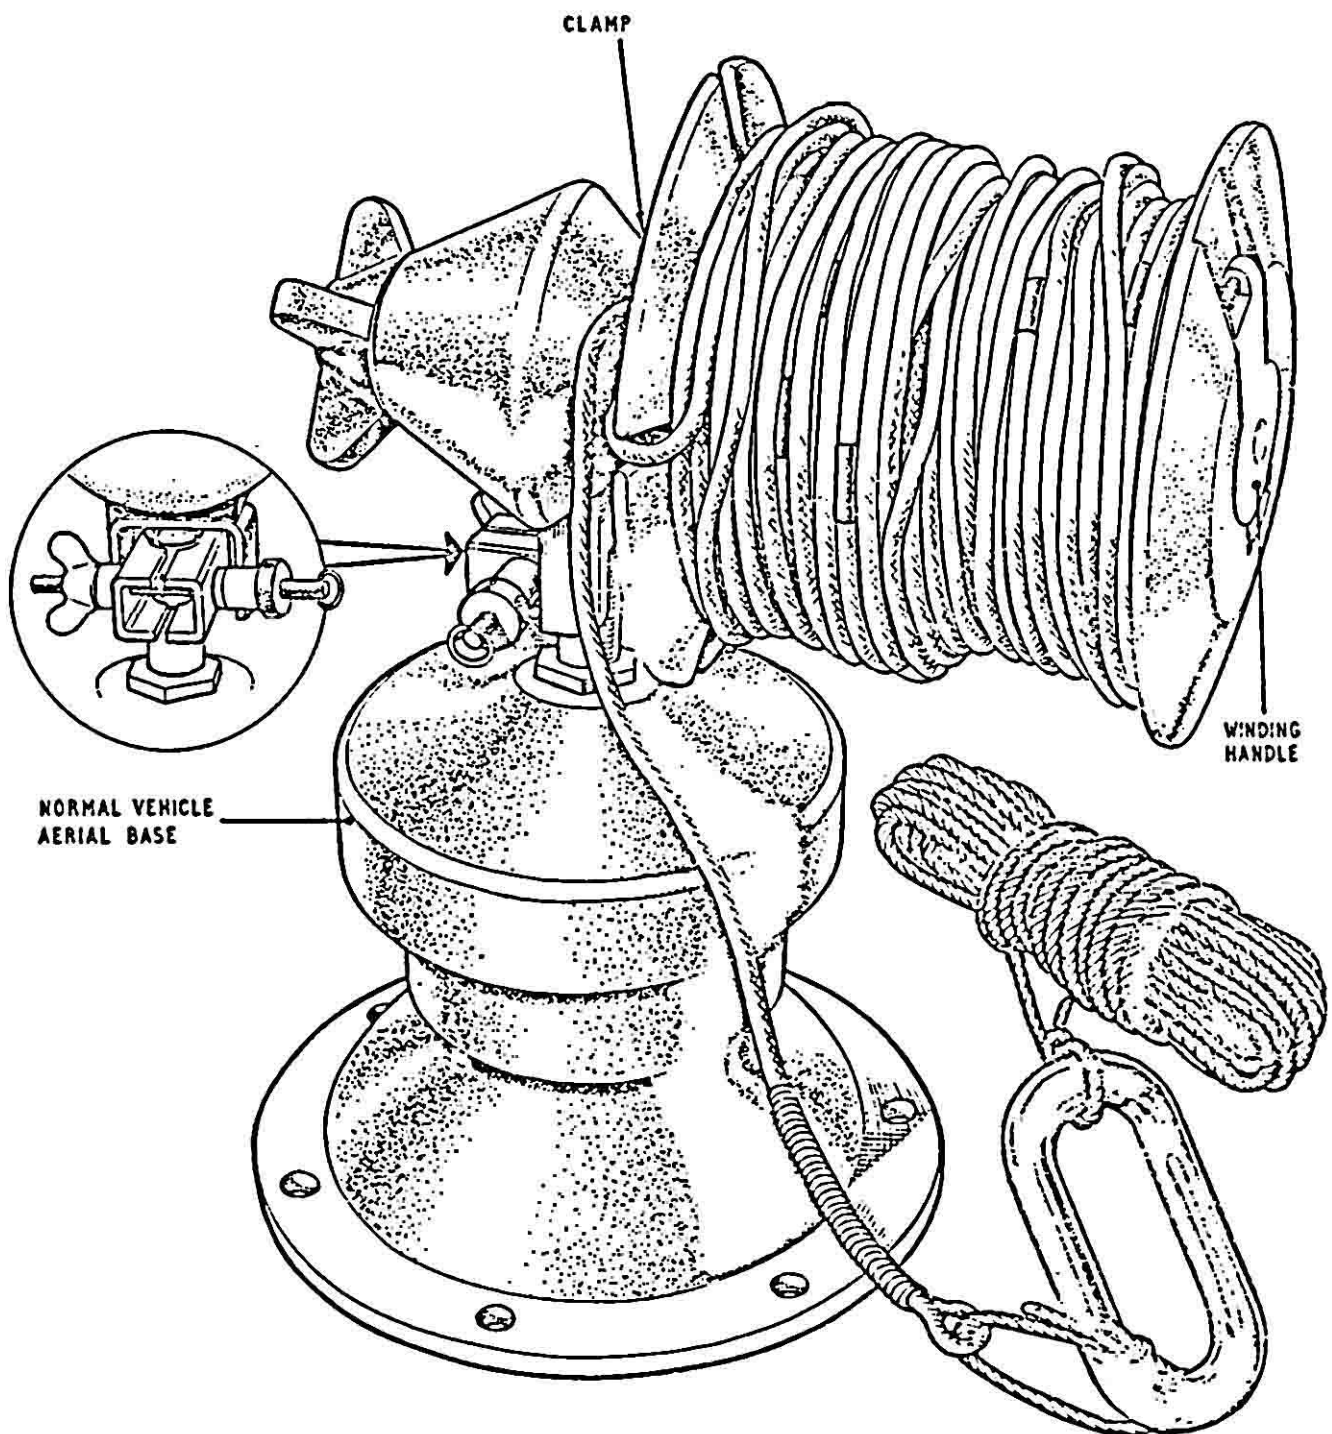

FIG. 6 AERIAL END FED 150 FT. MAXIMUM
- 5.1 The Aerial, End Fed, 150-ft. Max. (fig. 6) is intended for sky-wave working. It may also be erected vertically, by means of an insulated mast, to provide greater ground wave ranges than the whip aerial. It is easier to erect than a dipole, but is less efficient.
- 6.3 The "U" shaped projection on the underside of the conical boss prevents the reel from turning under the weight and tension of the aerial. The two straight edges of the fitting should rest against the terminal and wing-nut assembly as in fig. 6.